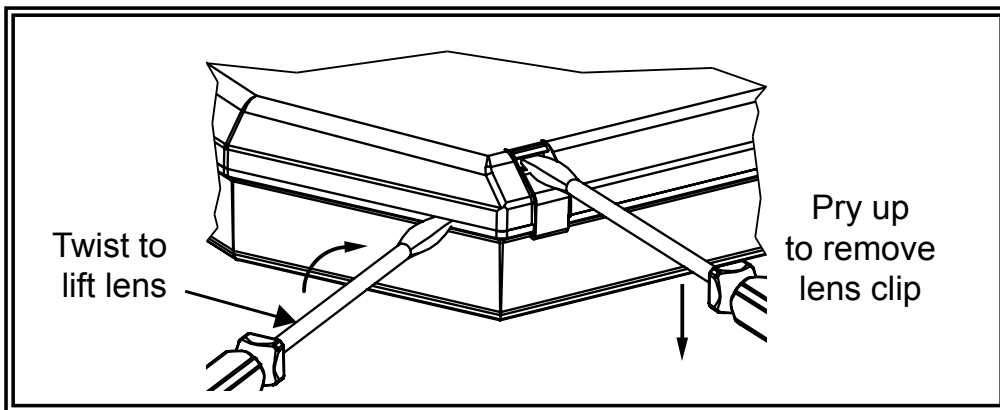

FIGURE 8
1. Uninstall the lens clips (4 per lens), as shown in FIGURE 8, using a flat blade screwdriver.